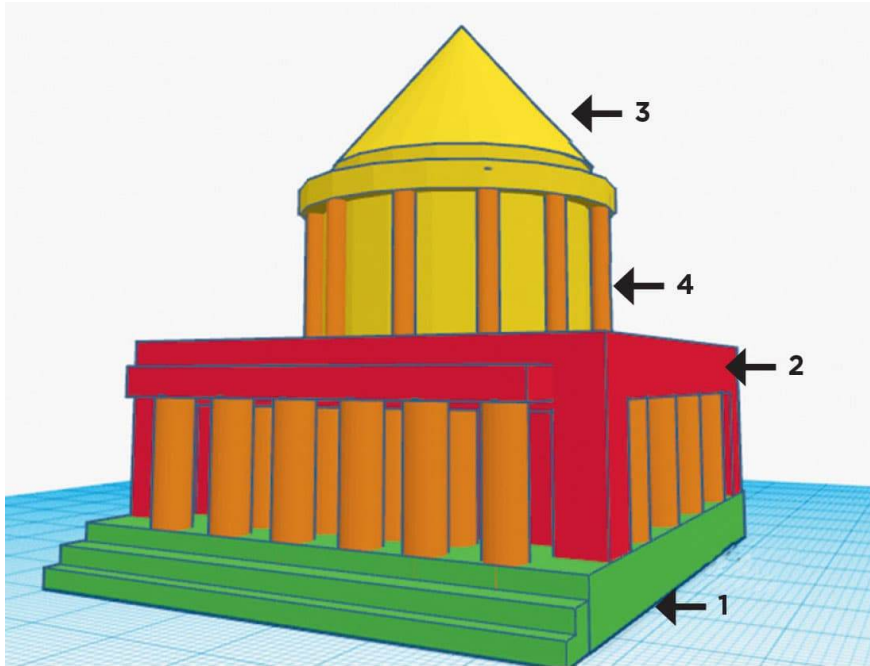

FIG. 1: A CAD model of Grant's Tomb identifying the sections.
1. For your first structure, identify the various parts (1-Base/Foundation, 2-Body, 3-Roof/Tower, 4-Facade/Finer Elements [windows, columns]) as shown in figs. 1 and 2, in which we identify the elements of Grant's Tomb and a bank in New York City as the design examples.